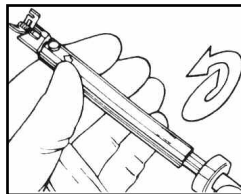
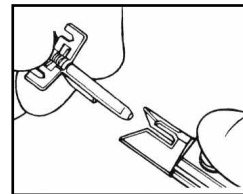

Figure 13
Figure 14
14. To remove the jaw assembly turn the Anastomotic Instrument knob fully counterclockwise (See Figure 13). Press the release button, located near the arrow on the Anastomotic Instrument, and remove the jaw assembly (See Figure 14).